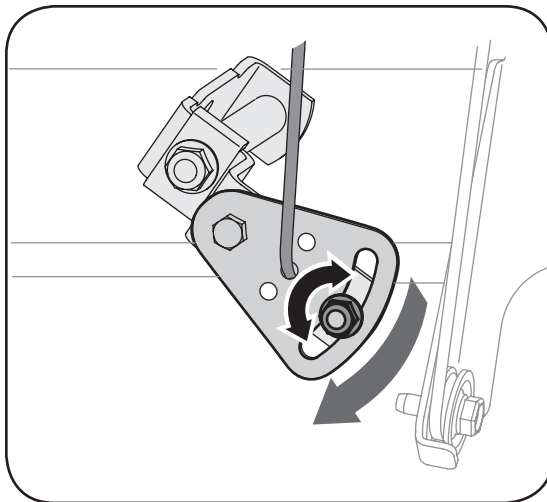

Figure 10
2. Loosen the hex nut on the shift cable index bracket. See Figure 10.